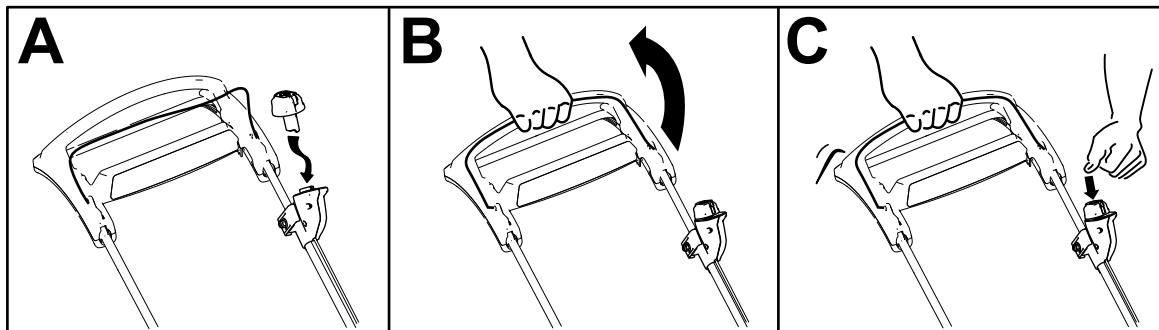

Figure 13
2. Insert the electric-start button into the electric-start switch (A of Figure 13).
3. Squeeze the blade-control bar and hold it to the handle for 2 seconds (B of Figure 13).
4. Press the electric-start button and keep it pressed until the motor starts (C of Figure 13).